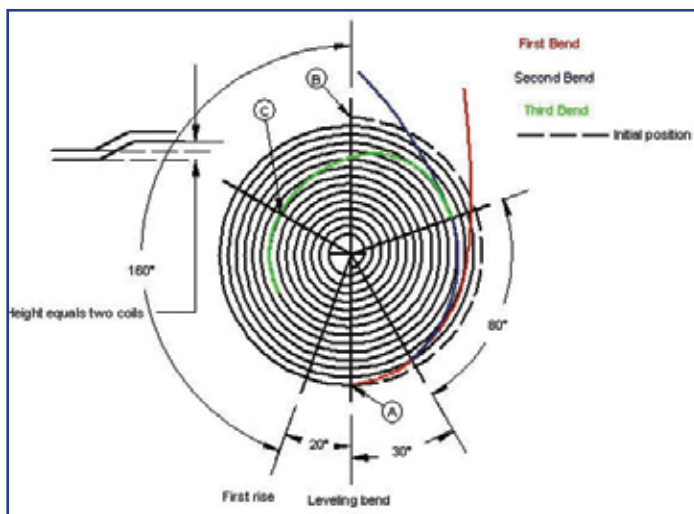

Figure 15
It may be useful to look ahead to Figure 15 to aid in visualizing the rise and leveling bend locations. The terminal curve begins at A where the leveling bend ends. The rise and leveling bends occur in a range of approximately  $20^\circ$ . The vibrating point B and point A are  $180^\circ$  apart so the rise bend should be located  $160^\circ$  CCW from the vibrating point B.
14). This bend is made at a point that will leave a gap between the flat coils and overcoil curve equal to  $1\times$  the height of the hairspring (Figure 15).
The Rolex 1570 overcoil design was studied and a drawing showing the specific bend positions and final geometry of the end curve was created (Figure 15).